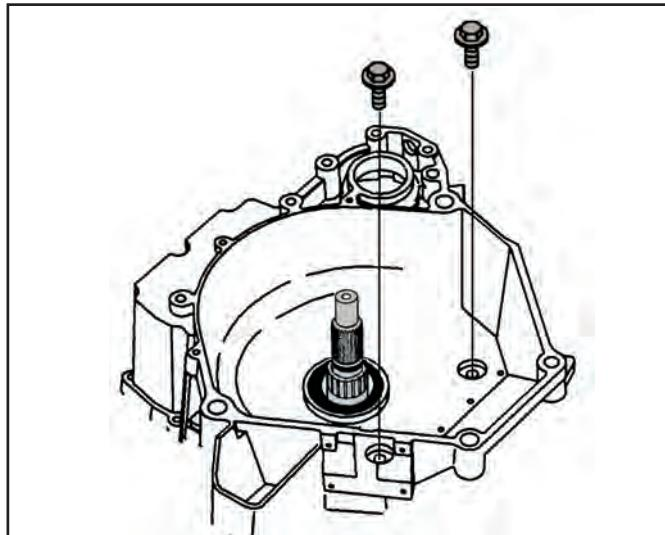

Figure 224
63. Install converter housing to case bolts and torque them down to 25 N·m (18 ft. lbs) as shown in Figure 224.